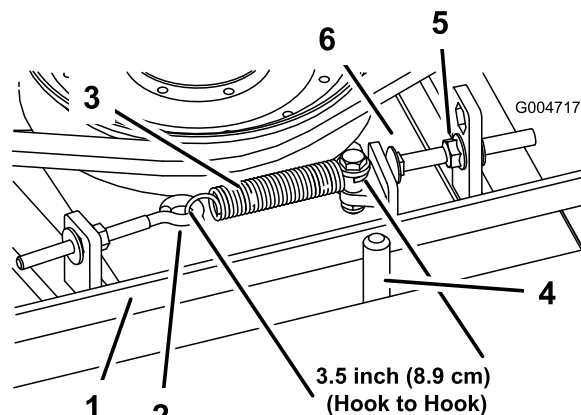

Figure 73
When properly tensioned, the inside measurement of the extension spring (hook to hook) should be approximately 8.3 to 9.5 cm (3-1/4 to 3-3/4 inches). Once the correct spring tension is attained, adjust the stop bolt (carriage bolt) until there is approximately 2 to 5 mm (0.065 to 0.185 inch) clearance between the head of the bolt and the idler arm (Figure 73).
Note: Ensure that the belt is positioned on the spring side of the belt guide (Figure 73).
2. Loosen the eye bolt allowing the removal of the extension spring (Figure 73).
3. Loosen the flange nut securing the stop bolt to the mounting tab and move the idler pulley away from the belt to release the belt tension (Figure 73).
9. Connect the extension spring (Figure 73) to the eye bolt and tension the belt as follows: